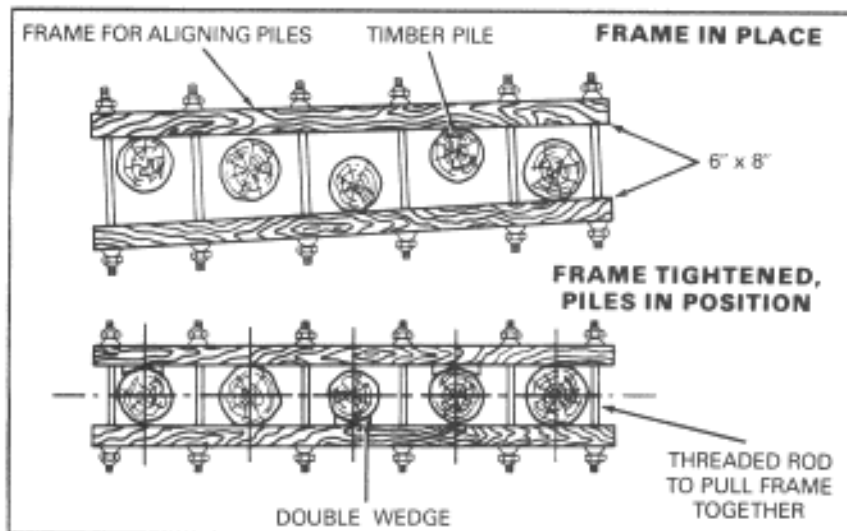

Figure 11-5. Realigning with a frame
- A block and tackle and an alignment frame (Figure 11-5, page 11-4) to pull the piles in a bent into proper spacing and to align them after they have been driven.